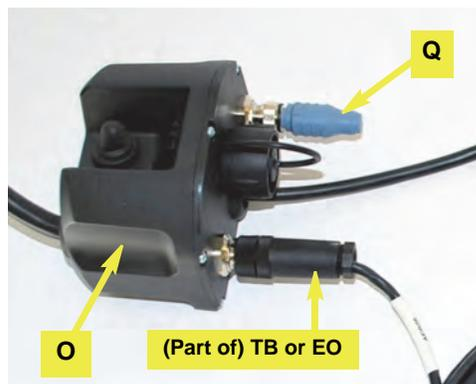

Figure 8d: CAN harness and terminator connected to junction box
- e. Connect the threaded 5-pin connector on the CAN bus harness **TB** (eDriveTC) or **EO** (eDriveX) to either of the threaded connectors on the junction box **O**. Connect the CAN bus terminator **Q** to the other threaded connector on the junction box (Figure 8d).